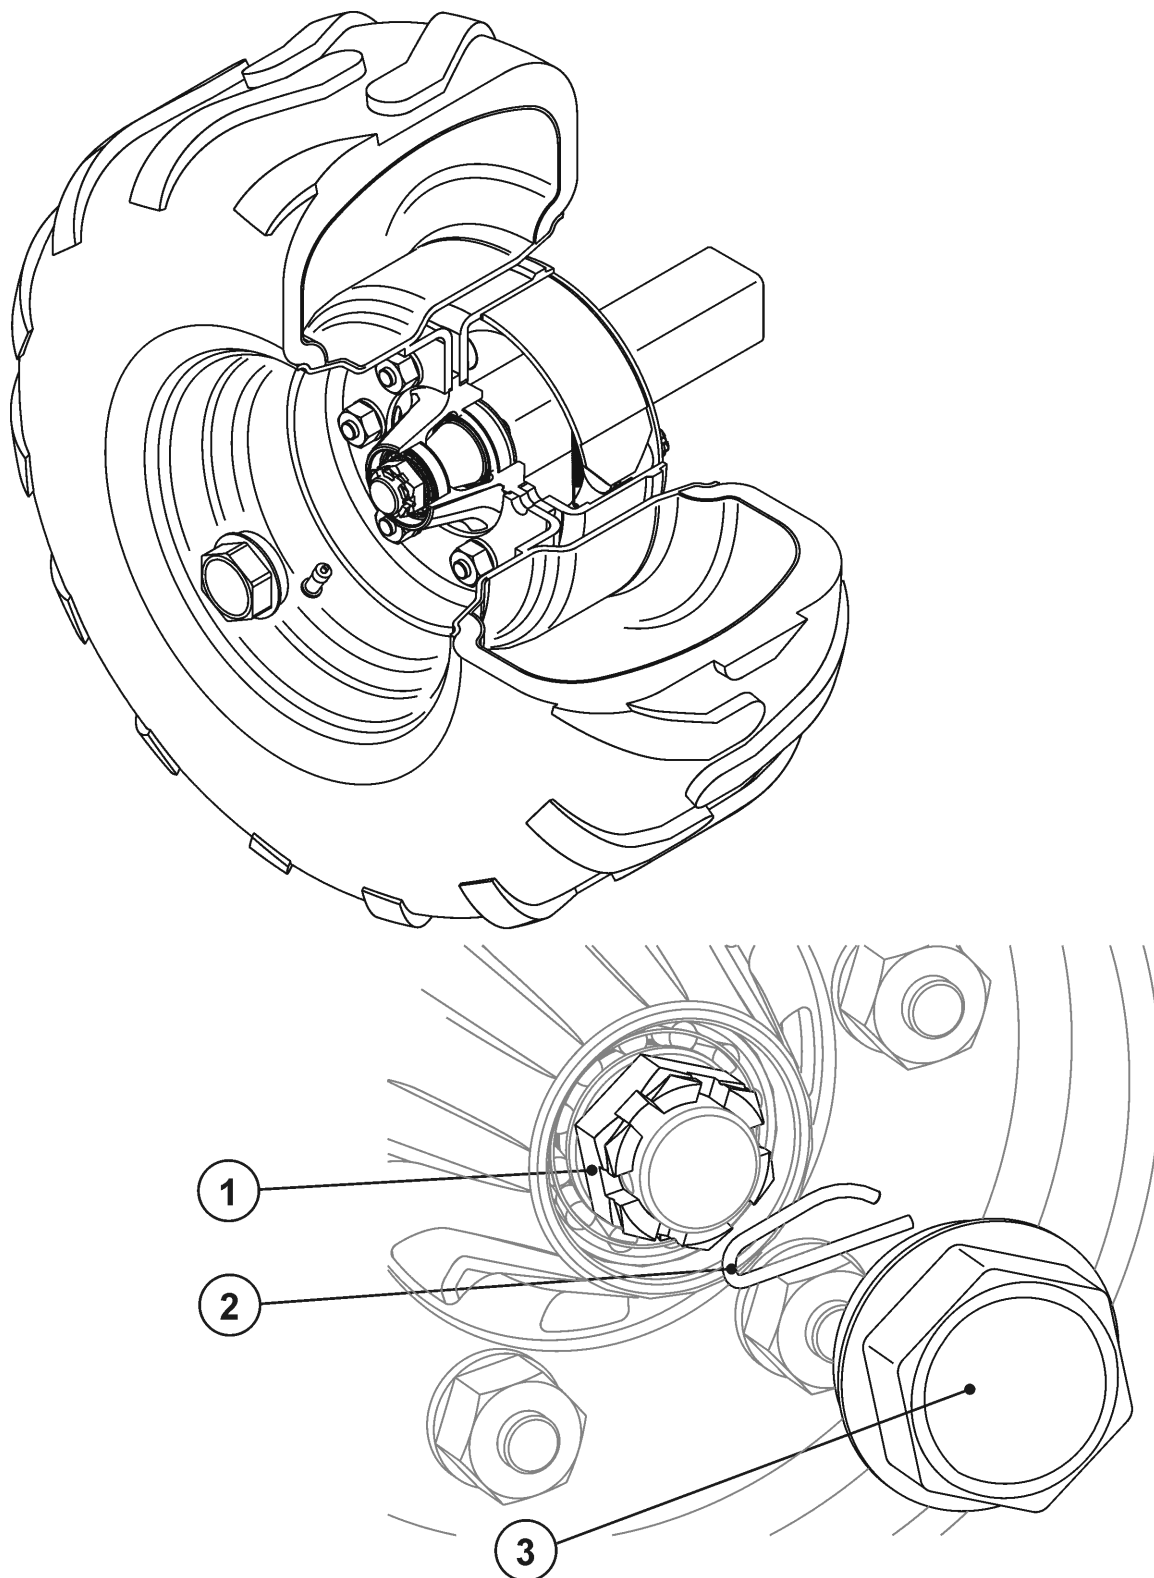

FIG. 23. ADJUSTMENT OF WHEEL BEARINGS REGULACJA ŁOŻYSK KÓŁ JEZDNYCH
If the play is too big remove the hub cover (3) and remove the cotter pin (2) of the castellated nut (1). While turning the wheel screw the crown nut tight until the wheel stops. Unscrew the nut by 1/3 turn until the next cotter pin groove will be aligned with the opening in the pivot (Fig. 23).